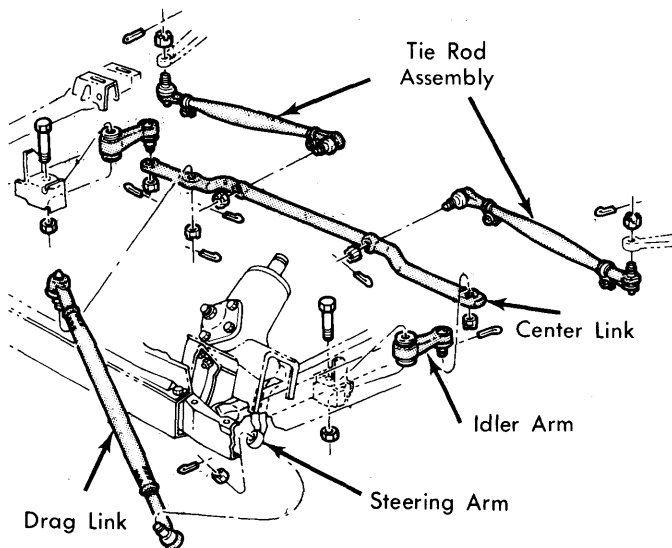

Fig. 2 Disassembled View of Steering Linkage for "B", "CB", "MB" and "PB" Models
4) Lubricate threads of new connecting rods. Screw into adjusting sleeve approximately same distance as old connecting rods. Make sure of correct position of adjusting sleeve clamps. See Fig. 2.